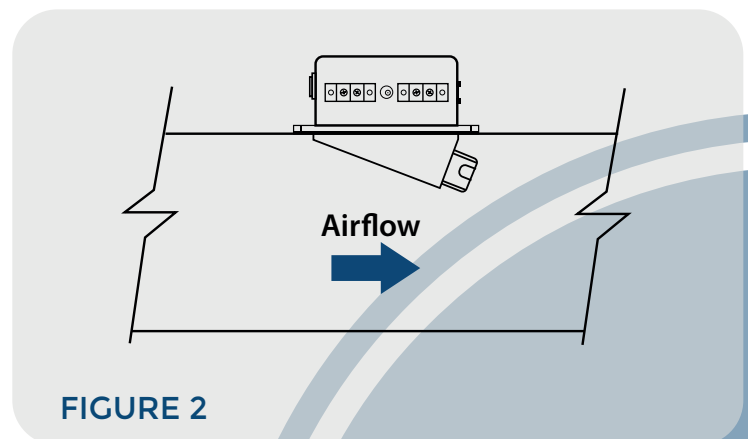

FIGURE 2
3. Install the DM-6000 such that the ionizing needles are pointed downstream of the airflow. A directional arrow is located on the label to aid in unit orientation (See Figure 2).